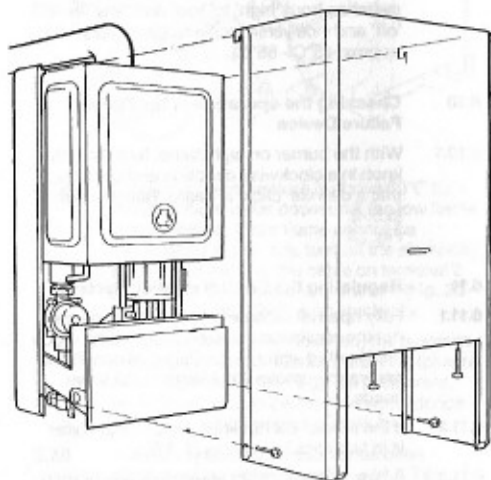

Fig. 26
**6.16 Refixing the Front Cover** (fig. 26)
Slide the casing downwards to fully engage the hooks and to align the bottom fixing holes. Replace the four case retaining screws. (fig. 26).